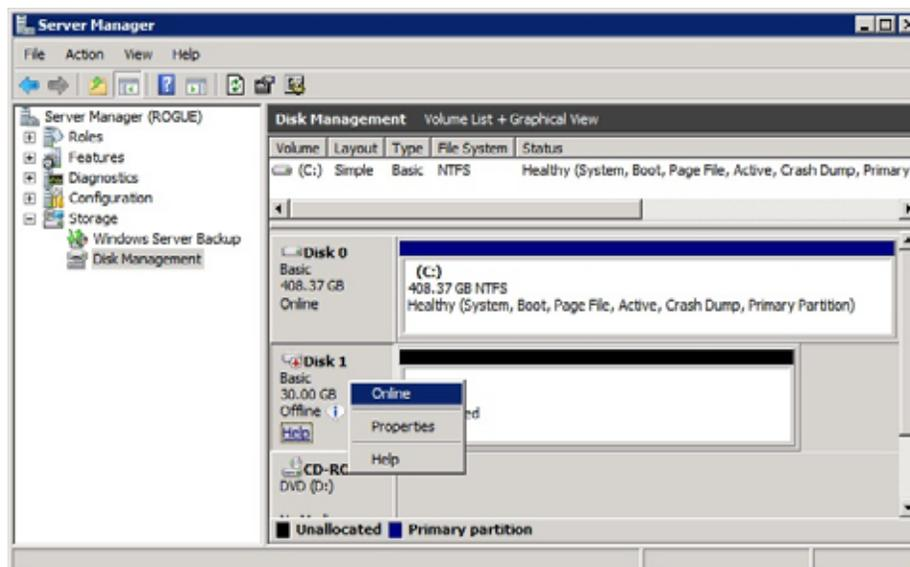

Figure 2 Server Manager — Bringing Disk Online
**Step 6** Using Disk Manager, bring the newly added disk online. Figure 2 shows using Server Manager to bring a disk online.